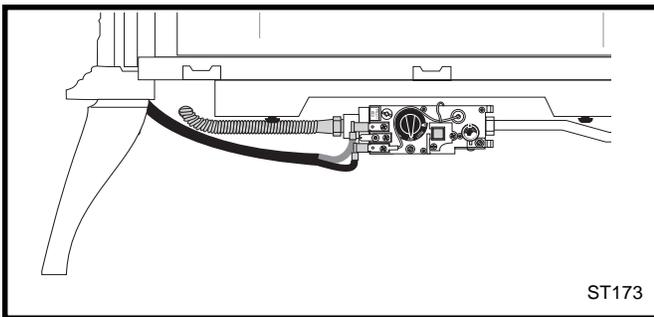

Fig. 18 Flexible gas line connection.
2. **Connect the main gas supply line** to the inlet on the left side of the control valve. (Fig. 18)